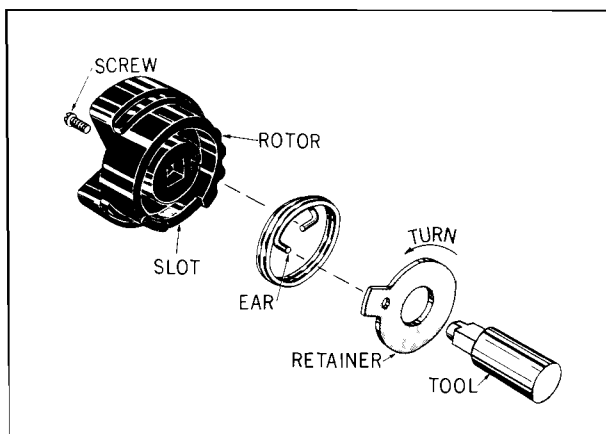

Figure 5. Assembly of Spring into Rotor
to rotor (7) with tang of spring engaged in groove inside of rotor. Place spring engaged in small hole of retainer. See figure 5. To wind spring, hold rotor (7) and turn retainer in a counter-clockwise direction until ear of retainer engages in slot of rotor. Align chamfered edges of previously fabricated tool with the two chamfered edges of square hole in center of rotor. Insert tool into hole and tighten screw (1) into assembly tool to hold spring and retainer in position.
Method I. Place spring (11) into rotor (7) with tang of spring engaged in groove inside of rotor. Place spring retainer (12) next to rotor with ear of spring engaged in small hole of retainer. Align chamfered edges of previously fabricated tool with the two chamfered edges of square hole in center of rotor. Insert tool into hole and start screw (1). To wind spring, hold rotor (7), turn retainer in a counter-clockwise direction until ear of retainer engages in slot of rotor (see figure 5). Tighten screw (1) into assembly tool to hold spring and retainer in position.